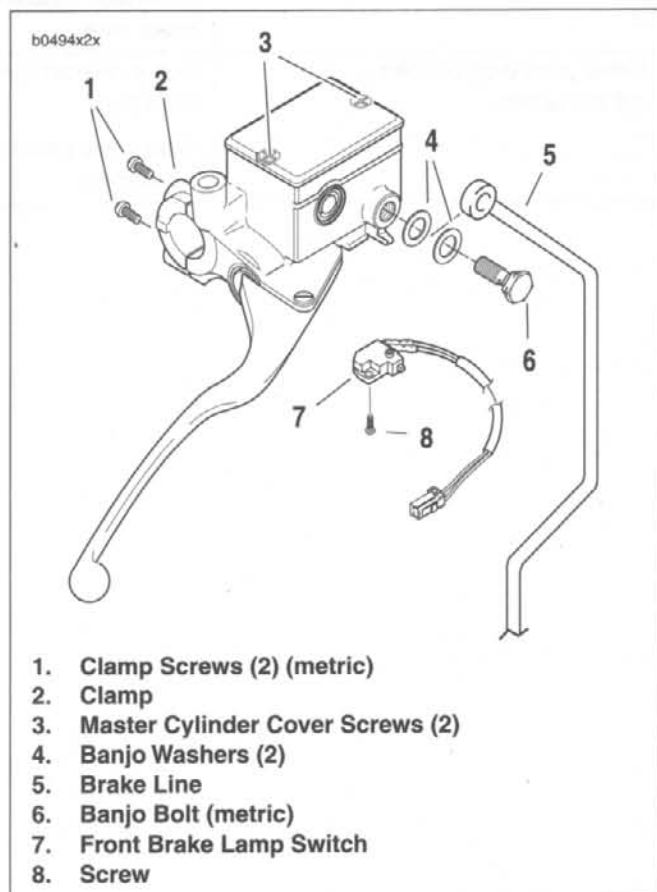
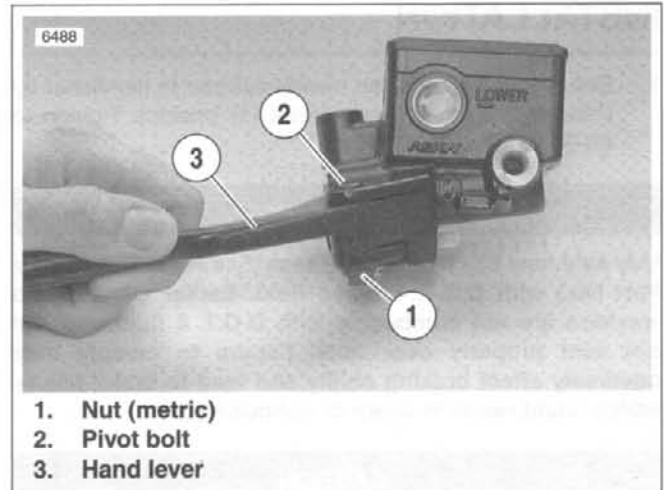
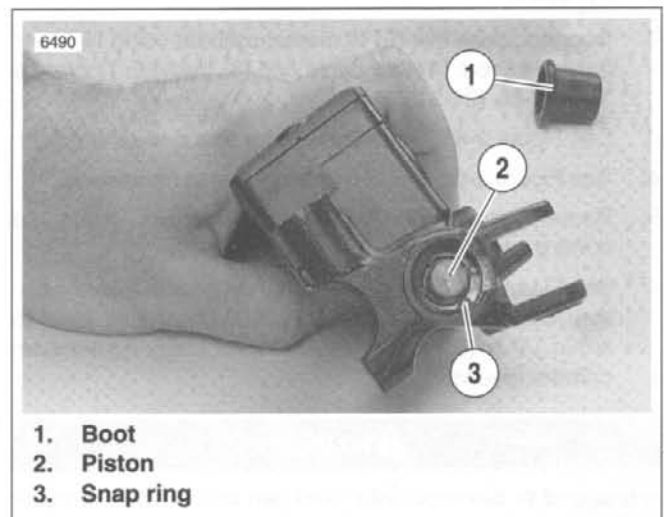
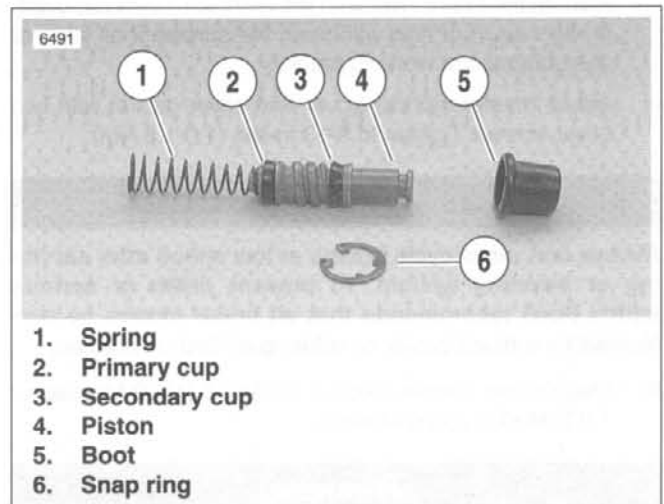

Figure 2-61. Front Master Cylinder
Figure 2-62. Hand Lever
Figure 2-63. Snap Ring
Figure 2-64. Piston Assembly
3. See Figure 2-61. Remove banjo bolt (6) (metric) and two banjo washers (4) to disconnect brake line (5) from master cylinder. Discard banjo washers.
4. Remove screw (8) or unplug both terminals to detach brake lamp switch (7).
1. See Figure 2-62. Detach front brake hand lever.
- a. Remove nut (1) (metric) from lever pivot.
- b. Remove pivot bolt (2) from lever pivot.
- c. Detach front brake hand lever (3) from master cylinder assembly.
3. See Figure 2-63. Compress piston (2) and remove rubber boot (1).
4. Depress piston assembly and remove internal snap ring (3). Discard snap ring.
5. See Figure 2-64. Remove piston assembly (1-4) from front master cylinder.
1. See Figure 2-64. Check piston assembly components.
- a. Small end of spring (1) sits behind primary cup (2). Large side of primary cup faces spring.
- b. Secondary cup (3) sits within ridge at middle of piston (4).
2. Insert piston assembly, spring first, into master cylinder. Secure with a **new** snap ring (6).
3. Install ridge on boot (5) into groove on piston (4).
4. See Figure 2-62. Install front brake hand lever.
- a. Align hole in lever (3) with hole in master cylinder assembly.
- b. Lubricate pivot bolt (2) with LOCTITE ANTI-SEIZE.
- d. Install nut (1) (metric). Tighten to 44-62 **in-lbs** (5.0-7.0 Nm).
5. See Figure 2-61. Install front brake lamp switch (7).
- a. Attach front brake lamp switch with screw (8). Tighten to 7-13 **in-lbs** (0.8-1.5 Nm).
1. See Figure 2-61. Fasten master cylinder to handlebar by installing clamp (2) and screws (1) (metric). Tighten to 80-90 in-lbs (9.0-10.2 Nm).